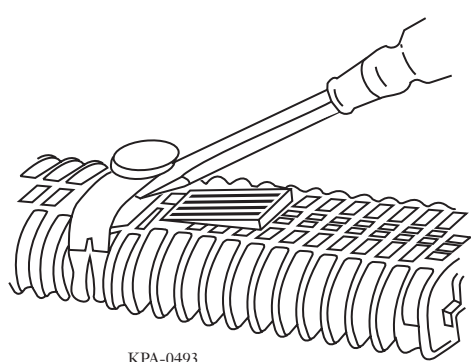
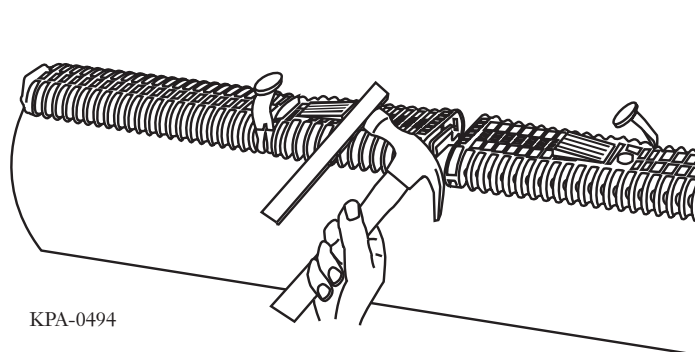

Figure 60 — Pry Locks Open
Figure 61 — Hammer Clamping Bars Off
- Step 2** Remove clamping bars. Pry upwards with a flat-tip screwdriver to open the clamping bar locks (Figure 60). Alternately tap against the stop on the top of the bars (Figure 61).